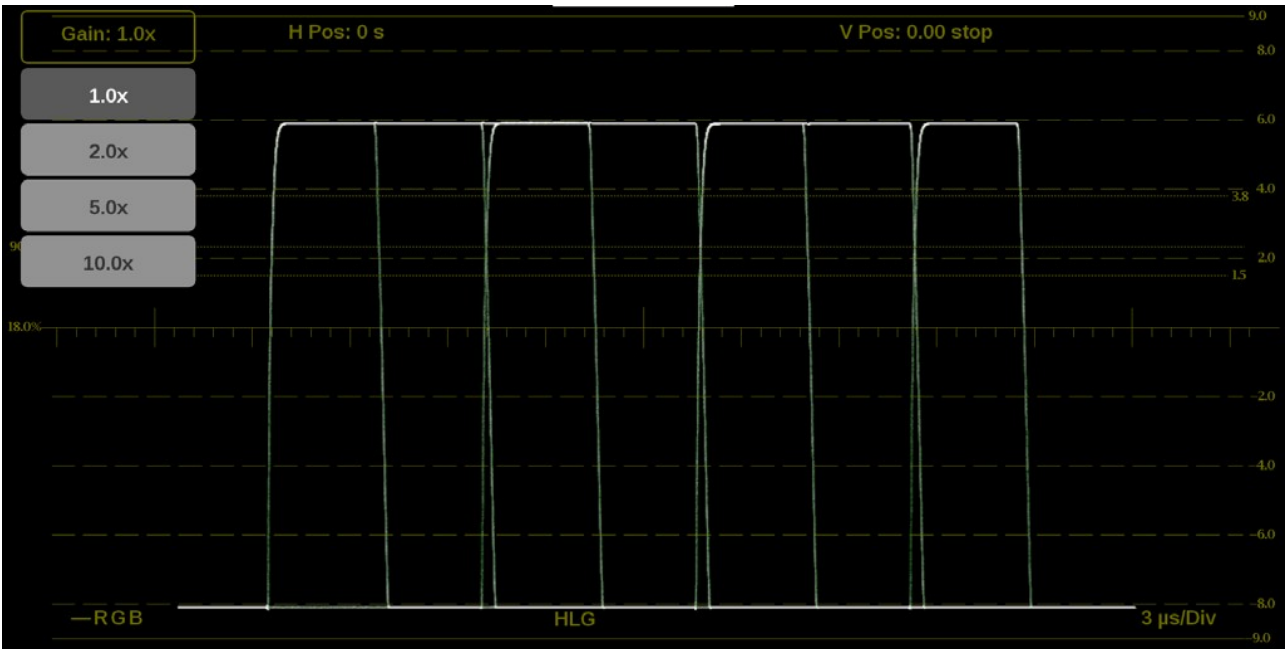

Figure 200: Stop Display on-screen tools–Gain
1. Select the **Gain** button to expand the available magnification options drop-down list. (See Figure 200.)